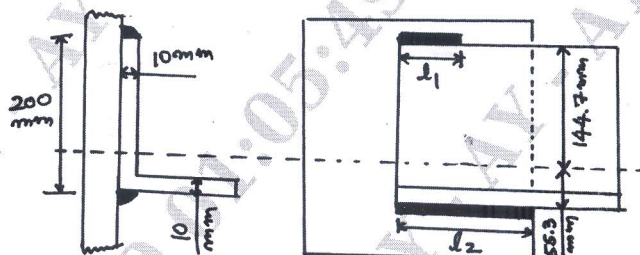

Fig.Q8(b)
b. A  $200 \text{ mm} \times 150 \text{ mm} \times 10 \text{ mm}$  angle, carrying a load of  $200 \text{ kN}$  is to be welded to a steel plate by fillet welds as shown in Fig.Q8(b). Find the lengths of the weld at the top and bottom if allowable shear stress in the weld is  $102.5 \text{ N/mm}^2$ . The distance between the neutral axis and the edges of the angle section are  $144.7 \text{ mm}$  and  $55.3 \text{ mm}$  respectively. (15 Marks)